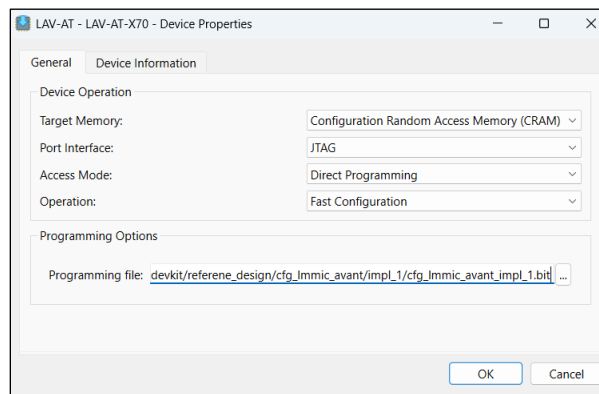

Figure 7.1. Device Properties Window
2. Configure the device properties as shown in Figure 7.1, then click **OK**.